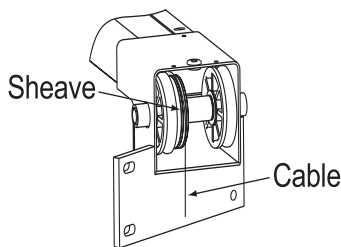
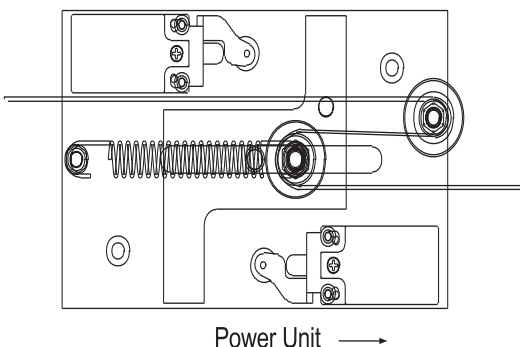

Fig. 15
Fig. 16
- Then the cable is routed over the plastic sheave in the overhead, see Fig. 15, and around the two pulleys attached to the microswitch assembly, see Fig.16.
- Run the cable over the power unit side plastic sheave, see Fig. 15. Then route through the lower sheave, see Fig.17, and back up through the carriage to the cable tie off. Attach using cable tie off and protector, see Fig. 18. Check that cable is taut and cam is centered between switches, see fig 16.